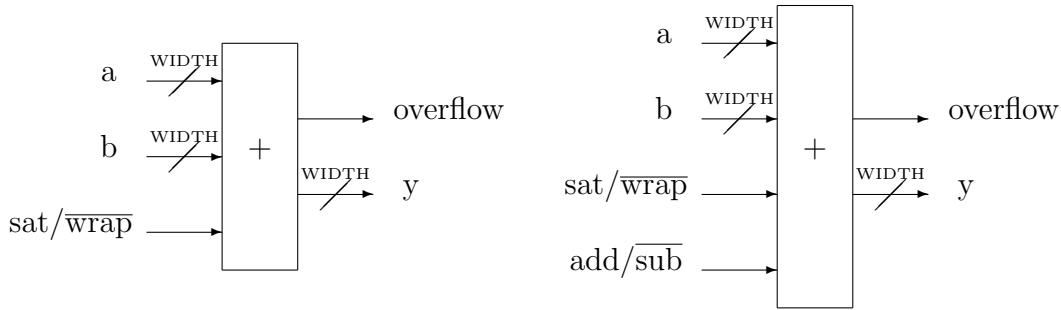

Figure 1: Illustrations of the entities for adder with optional saturation (as designed in Section 5), and for adder/subtractor (as in Section 6).
- Download test bench and `do` file for the saturating adder. Inspect the test bench to find out about name, ports, and generics of the new entity. Compare with the illustration in Figure 1.
- Create the entity for the adder/subtractor, including the new port. Compare with the illustration in Figure 1. Verify that it works with the test bench.